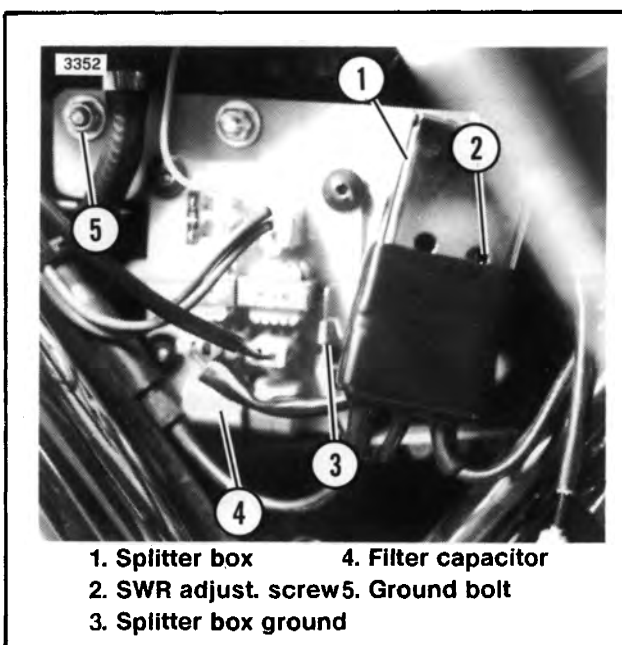

Figure 8-52. Fuse / Filter Board and Splitter Box
11. See Figure 8-52. Remove the left side cover. Remove the cable straps from the splitter box (1) and lubricate top cable and plastic cover with silicone spray. Gently move cover so adjustment screw (2) is exposed.
If after adjusting splitter box and antenna length, the SWR is still over 3:1, the antenna cable or splitter box may be open, shorted or poorly grounded. Refer to and perform antenna test (Figure 2-123 in Section 2). Also see Figure 8-52 and check that splitter box ground (3) is connected.
3. Connect negative probe of voltmeter to common ground bolt (5, Figure 8-52).